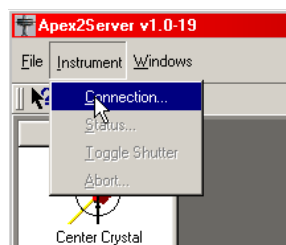

Figure 4.4 - Connecting to the instrument
2. In the top left corner, click on the Instrument pull-down menu (see Figure 4.4).